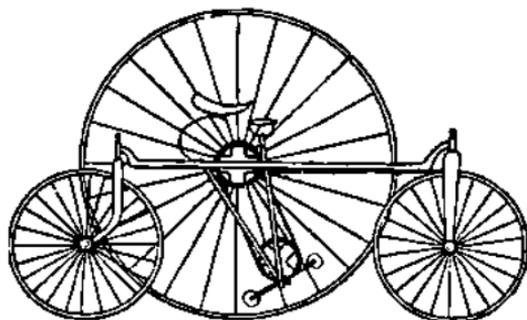

FIG. 3. THE LEOPOLD TRICYCLE.
3. *The Leopold Tricycle* (E. A. Trantar, Yerbury Factory, Trowbridge, Wilts).—This machine is built on very similar lines to the old Coventry, the main principle being to place the large or driving wheel on the left, and the small wheels on the right. The illustration (Fig. 3) does not convey a correct impression; it is the trade mark, the title Leopold being applied by special permission of H.R.H., and registered.